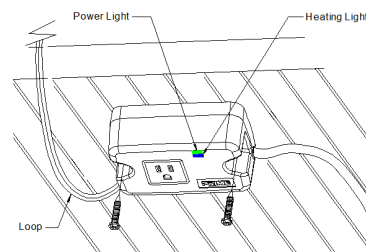

Fig.4
5. The roof de-icing cable will be energized when blue "Heating" light is lit. Fig. 4.